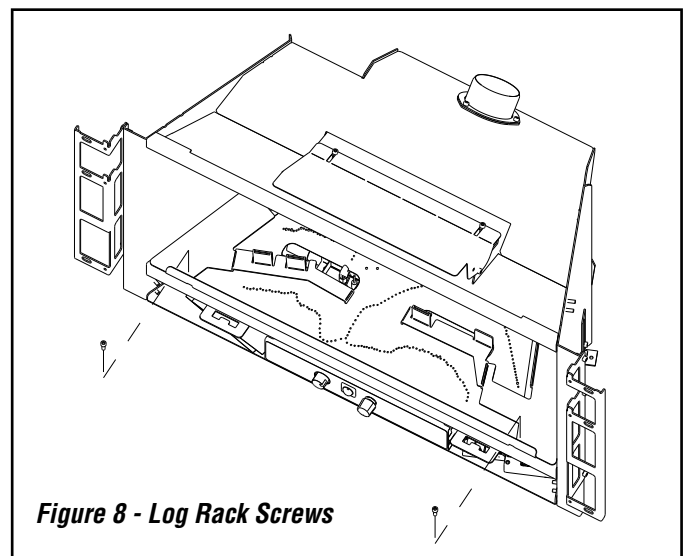

Figure 8 - Log Rack Screws
1. Remove the log rack (2 screws) and install the rear log on the retainer. See **Figures 8 and 9**.